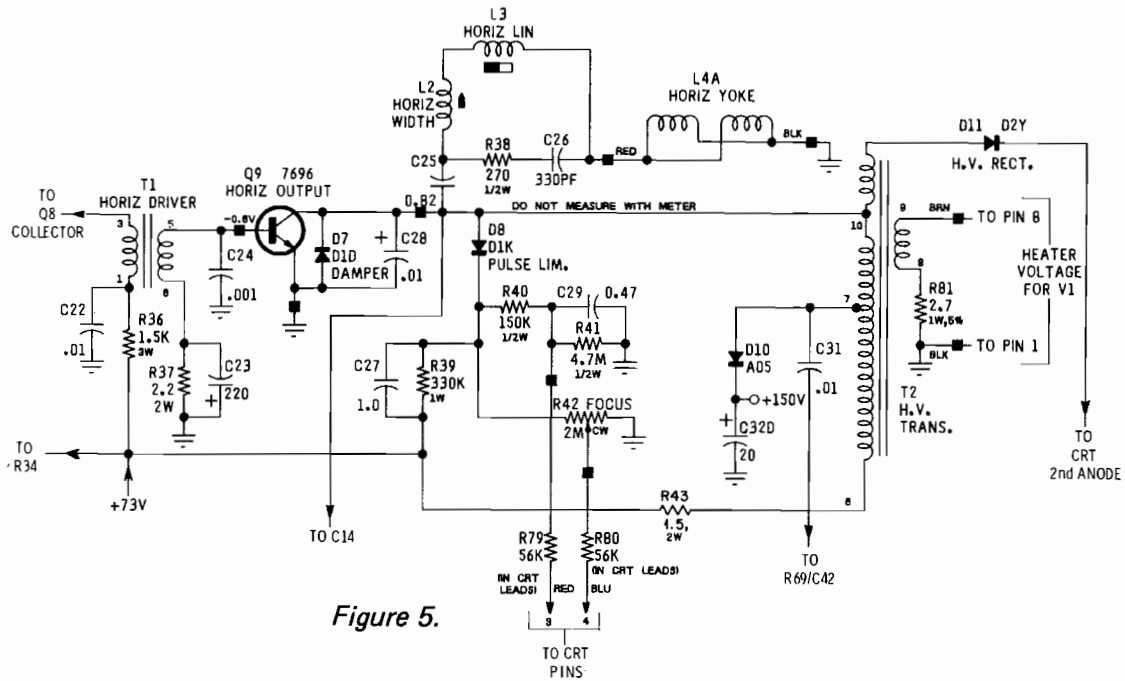

Figure 5.
**HORIZONTAL OUTPUT** (See Figure 5.)